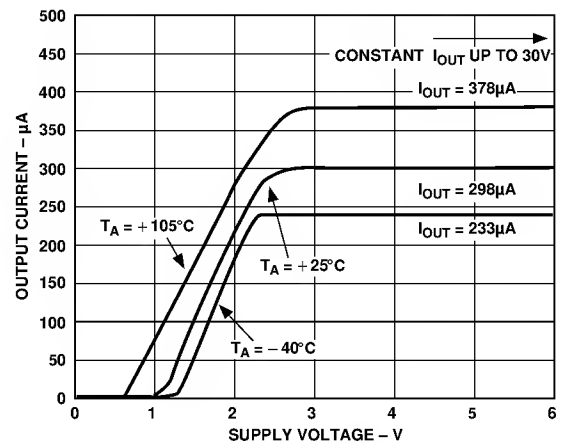

Figure 6. V-I Characteristics
The TMP17 uses a fundamental property of silicon transistors to realize its temperature proportional output. If two identical transistors are operated at a constant ratio of collector current densities, r , then the difference in base-emitter voltages will be $(kT/q)(\ln r)$. Since both k , Boltzmann's constant, and q , the charge of an electron, are constant, the resulting voltage is directly Proportional To Absolute Temperature (PTAT). In the TMP17 this difference voltage is converted to a PTAT current by low temperature coefficient thin film resistors. This PTAT current is then used to force the total output current to be proportional to degrees Kelvin. The result is a current source with an output equal to a scale factor times the temperature (K) of the sensor. A typical V-I plot of the circuit at 125°C and the temperature extremes is shown in Figure 6.